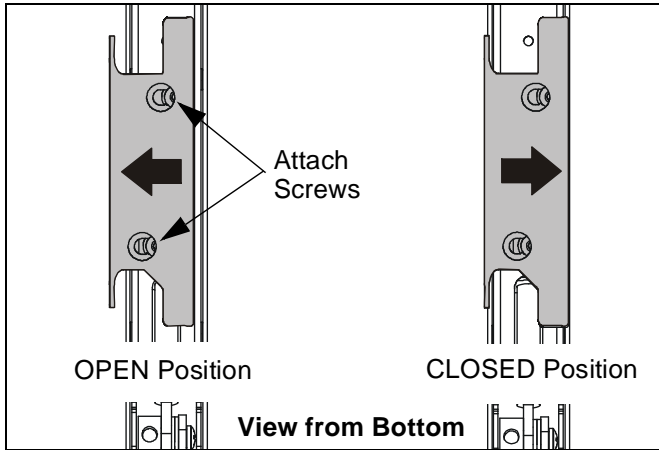

Figure 21: Height Adjustable Arm - Cable Management Bracket
2. Open the cable management bracket (on height-adjustable arm only) by sliding it towards the edge of the arm (See Figure 21).
- Close cable management bracket by sliding it back towards the centerline of the arm (See Figure 21).